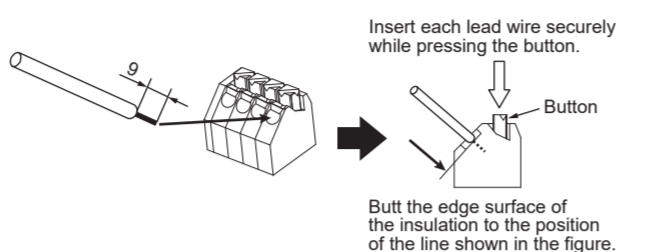

Fig. 5-11
- Press each button at the upper side on the terminal of the Power Supply Interface for Alarm Kit to open each wiring connection port and insert the lead wires until the core wire is hidden. (Fig. 5-11)